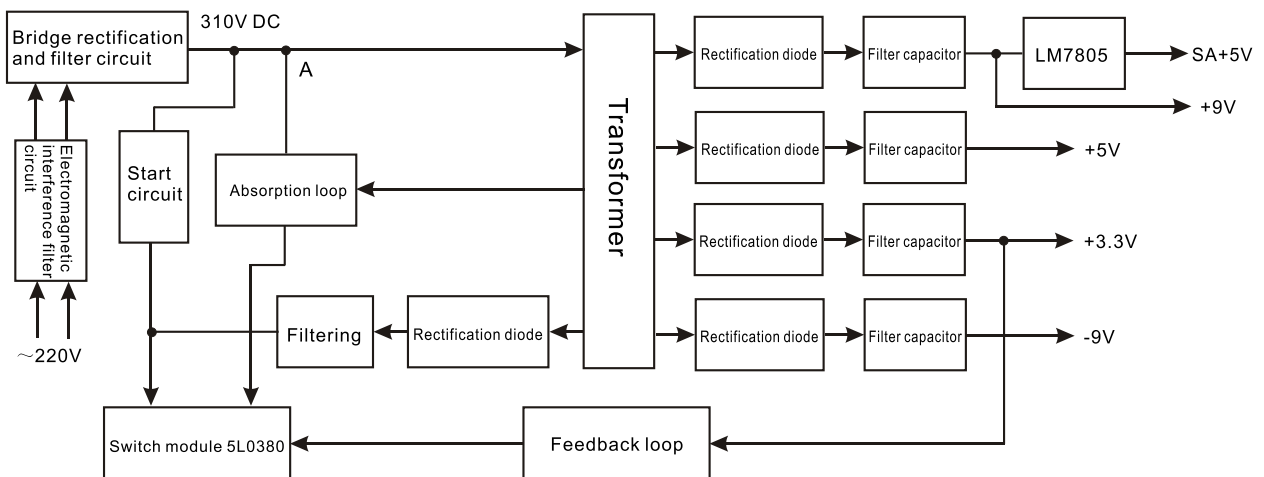

Figure 3.2.12.2 Power circuit flow chart
1. The circuit schematic diagram is shown as the figure 3.2.12.1:
2. The circuit functional block diagram is shown as the figure 3.2.12.2: